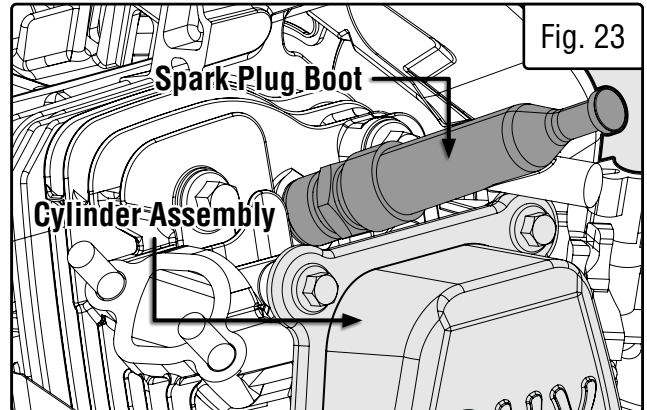

Fig. 23
2. Gently pull on the spark plug boot (Fig. 23) to remove it. Be careful not to tear any insulation or wire.